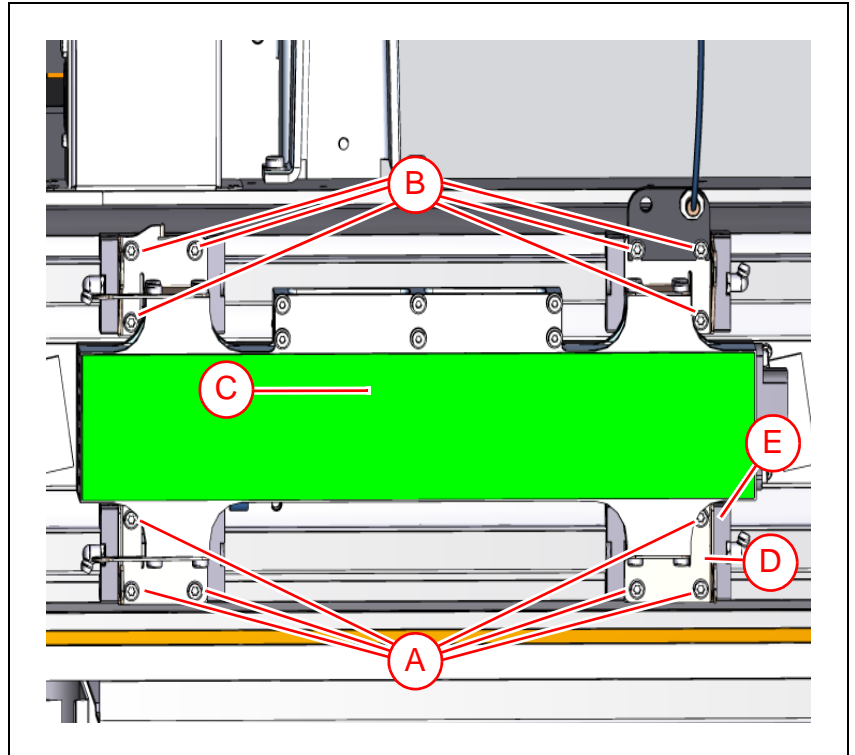

Figure 5-18. Removing the heat sink unit.
5. Choose to remove a magnetic strip where it will be easy to get access to the screws that attaches the flexible brackets ('D' in Figure 5-18) to the linear guides ('E'). Use a magnet cover (L-050-0073 available from Mycronic) to cover the magnetic strip. For details see section Removing and Installing the Magnetic Strips on page 5-26.